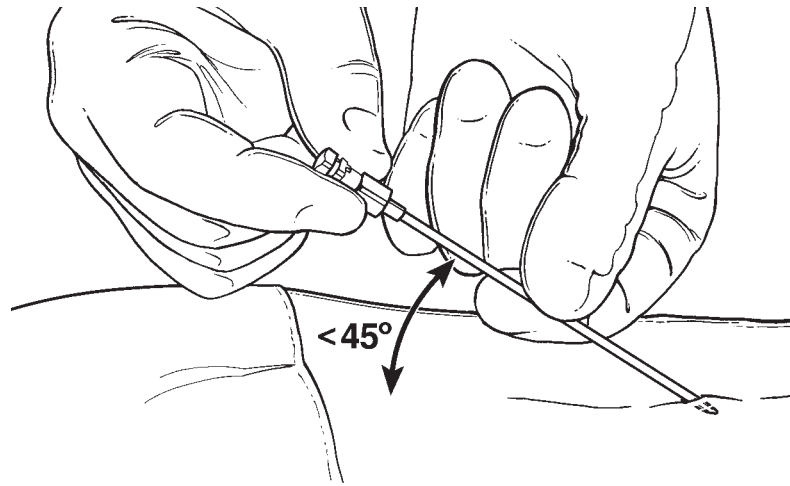

FIGURE 6
- 1 Using a paramedial approach and under fluoroscopy, insert the modified Tuohy needle (included in the lead package or from an accessory kit) into the epidural space at the appropriate angle (FIGURE 6).